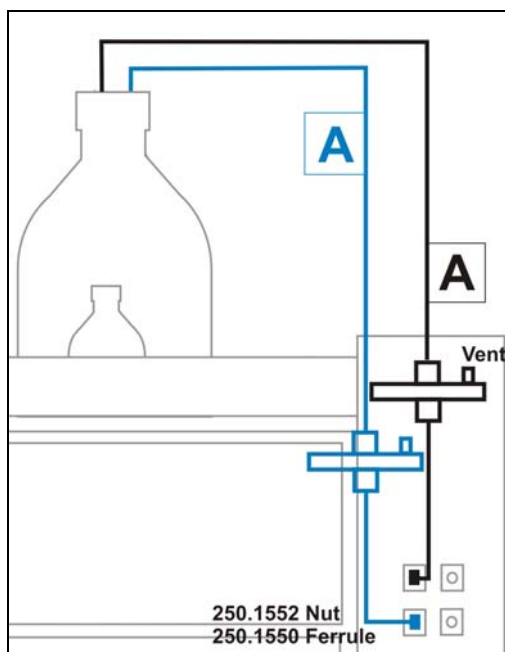

Figure 6. Assemblies A: Connection between bottle - degasser.
Two assemblies A are provided consisting of two pieces of FEP tubing and a 0.2 μm IFD in-line filter. Place the end of the FEP tubing A in the mobile phase bottle as depicted in figure 6.
Place one tubing end in the bottle with wash solvent as depicted in figure 6. Connect the syringe (p/n 182.0408) supplied in the LC 100 ship kit to the other tubing. Install the interconnection tubing (L) and fill the piston wash with wash solvent by withdrawal of the syringe.